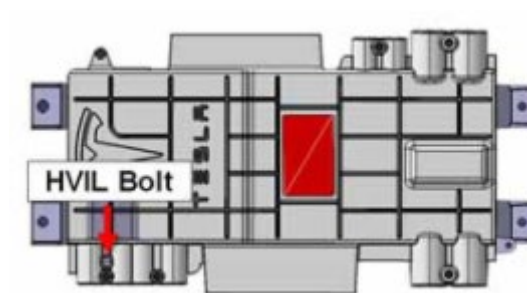

Figure 4
a. Remove the HVIL bolt from the HVJB cover (Figure 4).